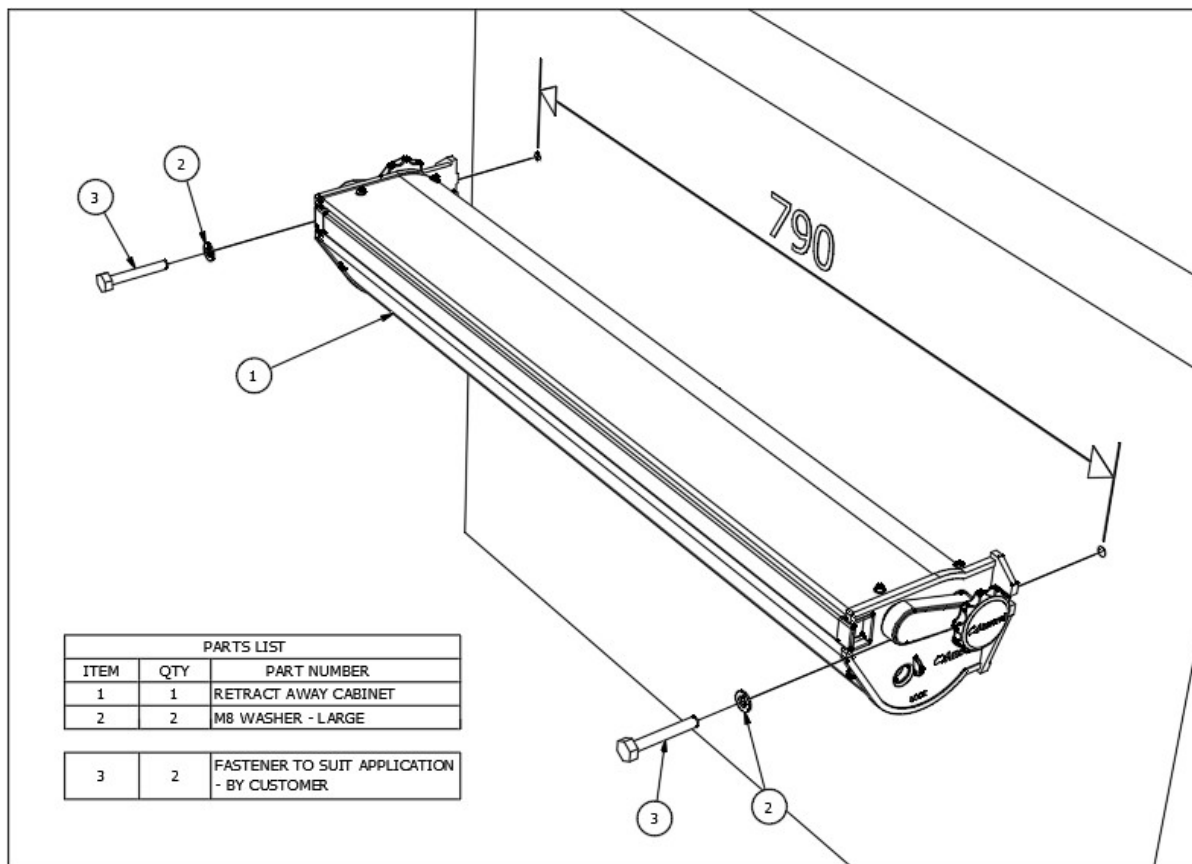

Fig 1. Cabinet installation to wall.
- Fit Cabinet (item 1 - below) using fixings that suit the application. See Fig 1. (Fixings not supplied).